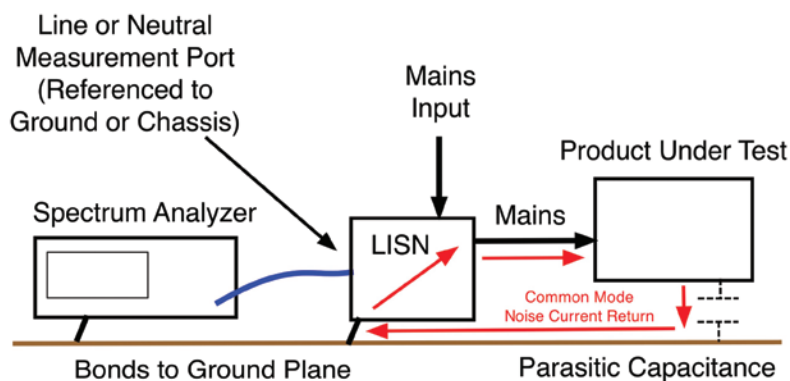

Figure 1: The commercial conducted emission measurement setup as specified by CISPR 11 or 32.
**P**re-compliance testing aims to duplicate the test setup used by your third-party test lab. Fortunately, setting up a conducted emissions test in-house is relatively simple and can be performed on the benchtop (Figure 1).
measured from line to ground (or chassis) and neutral to ground (or chassis). This is depicted in Figure 1 and is measured using a line impedance stabilization network, or LISN.